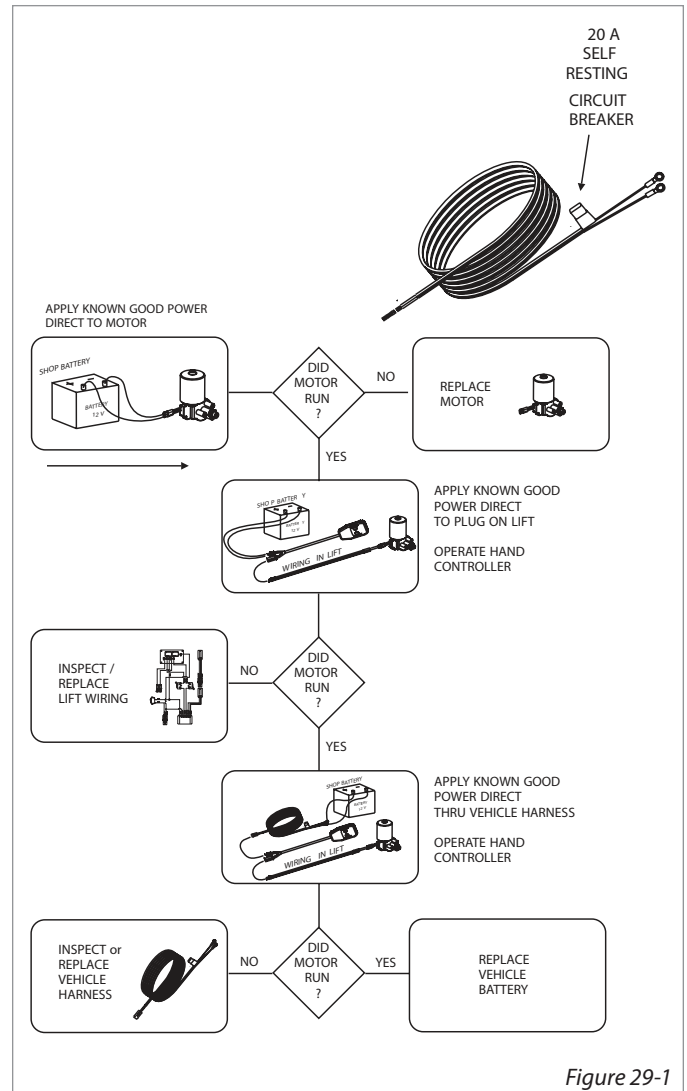

Figure 29-1
- Verify the circuit breaker. The circuit breaker is located about 6" from the connections to the vehicle's battery. The breaker will self-reset if overloaded; however, verify (with Ohm meter or test light) that the breaker is functioning. Or replace it with a new/known-good circuit breaker and perform the tests shown in [Figure 29-1].